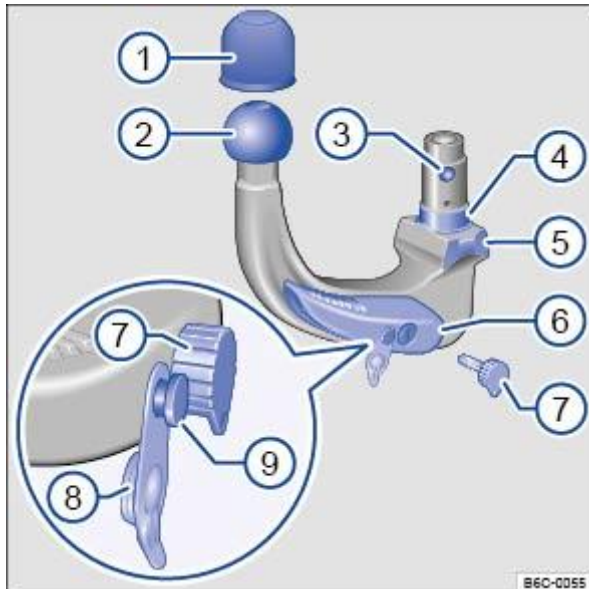

Fig. 155 Overview: removable ball head.
Key to ⇒ Fig. 155
Check to ensure that the mounting, locking lever ⇒ Fig. 155 ⑥, shank ④ and the retaining balls ③ of the ball head are all clean and not damaged ⇒ ① . Clean if necessary.
The lock cover ⇒ Fig. 155 ⑧ is open and the key ⑦ is inserted
Push the ball head firmly upwards until it engages. The centring devices ⇒ Fig. 155 ⑤ must engage in the mounting points on the vehicle.
The locking lever ⇒ Fig. 155 ⑥ is in the uppermost position.
❗ If the smallest diameter of the ball ⇒ Fig. 155 ③ is less than 49 mm, do not use the towing bracket.
- 2 Remove the lock cover ⇒ Fig. 155 ⑧ from the lock in the locking lever and insert the key ⑦ into the lock.
- 2 Turn the key ⑦ anti-clockwise until the part of the key with the hole is at the top.
- 2 Hold the neck of the ball head under the ball head ② with your hand.
- 2 Press the release pin ⑨ and at the same time press the locking lever ⑥ down as far as it will go ⇒ . The ball head is pre-tensioned.
- 2 Let go of the release lever ⑥ and stow the pre-tensioned ball head safely with the vehicle toolkit.